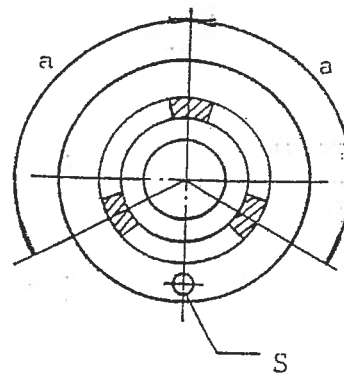

Fig. 5
- * Place two correction weight "K" anywhere around the periphery, but at equal distance "a" from weight "G" (Fig. 5)